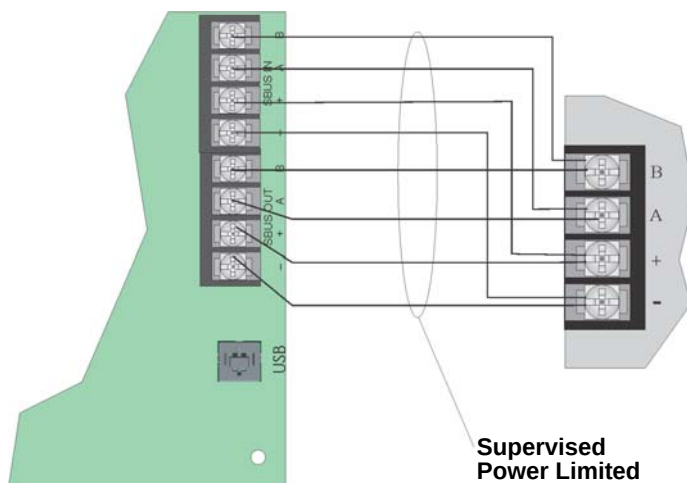
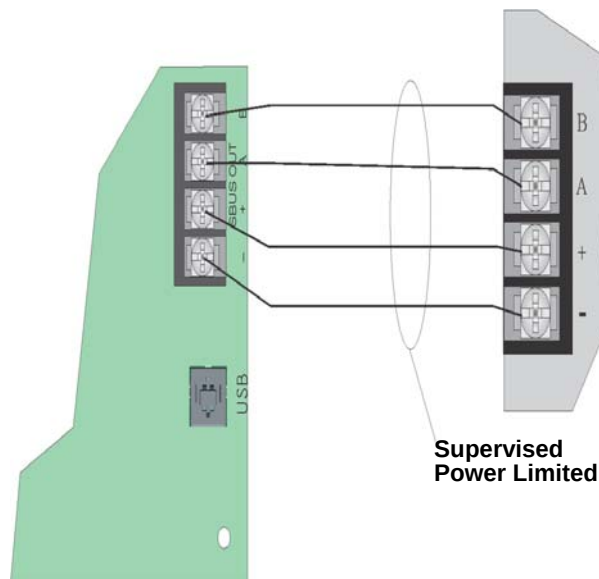

Figure 4.8 SBUS Class A Wiring
Figure 4.9 SBUS Class B Wiring
Figure 4.8 illustrates Class A wiring configuration and Figure 4.9 illustrates Class B configuration.
3. Wire the Annunciator board to the main control panel. See Figure 4.9.